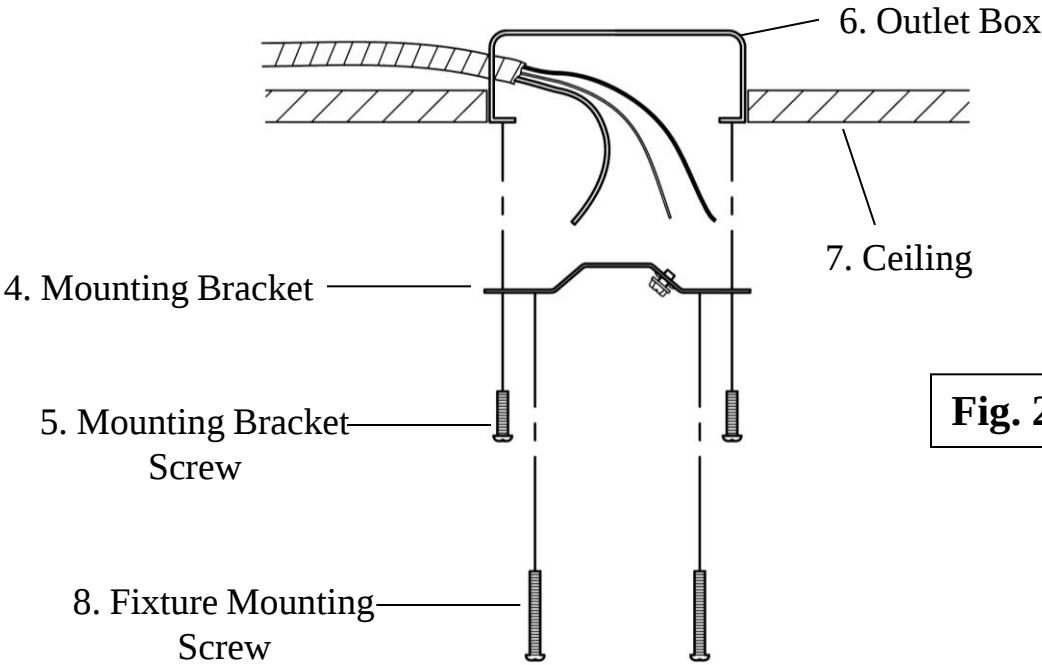

Fig. 2
1. Thread the Fixture Mounting Screws (#8) into the Mounting Bracket (#4), as shown. **(Fig. 2)**
2. Attach the Mounting Bracket (#4) to the Outlet Box (#6) using the Mounting Bracket Screws (#5), as shown. **(Fig. 2)**